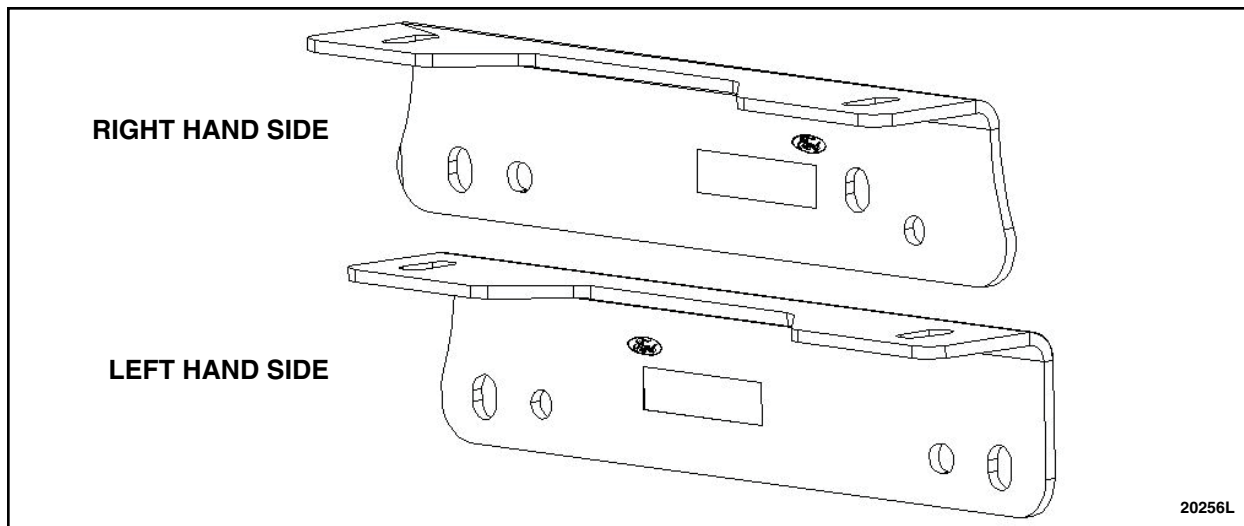

FIGURE 13
21. Identify the LH and RH fifth wheel outer brackets. See Figure 13.